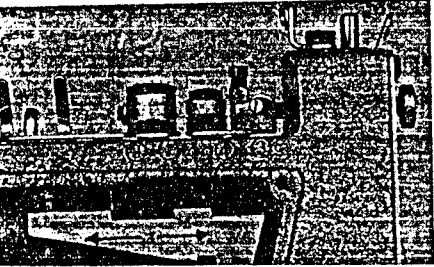
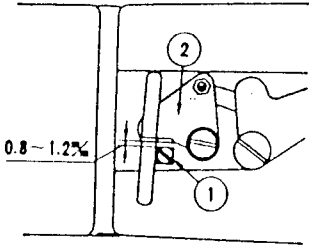

Fig.8
Fig.10
10. FUNCTIONS OF THE THREAD PULL-OFF LEVER (Fig.8,9)
11. THE THREAD NIPPER (Fig. 10)
However, during the sewing operation, adjust the nipper so that it will not hold the thread. As shown in Fig. 10 make this adjustment by loosening the nipper bar block set screw ③ Fig. 8 so that during the running, the clearance between the nipper block and the nipper becomes 0.8-1.2mm (about 3/64") and by moving the nipper bar block to right and left to attain this clearance.